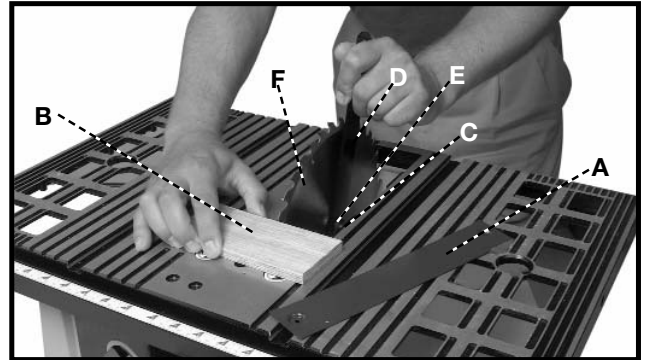

Fig. 38
1. Raise the saw blade to its maximum height and remove the table insert (A) Fig. 38.
2. Place a piece of wood (B) Fig. 38 flat on the table against the blade so that a tooth of the blade can "grab" the wood to keep the blade from turning. Remove the arbor nut (C) with the blade removal wrench (D). Turn the nut (C) counter-clockwise to remove. Remove the outside blade flange (E) and saw blade (F).